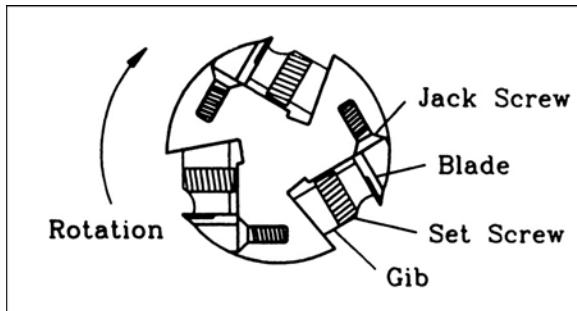

Figure 9
11. Replace lock bars on knife number one as in Figure 9, paying attention to which direction they face.